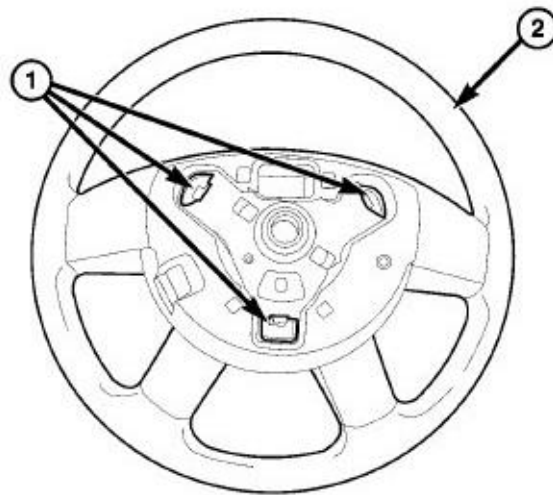

Figure 1 – DAB Retainer Locations
6. There are three DAB retainer access holes (1) on the instrument panel side of the hub of the steering wheel (2), located at the two o'clock, six o'clock and ten o'clock positions. The steering wheel must be rotated to bring each of these access holes up to the twelve o'clock position of the steering column one at a time for removal access (Figure 1).